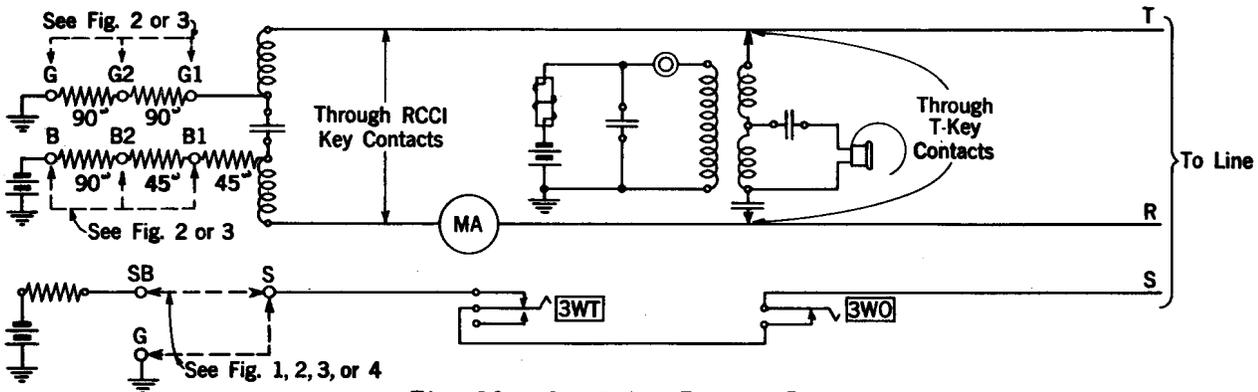

Fig. 13 - Supplying Talking Battery
5.31 When it is necessary to supply talking battery through the test circuit, operate the T and RCCI keys. This supplies central office battery through the repeating coil and milliammeter to the ring side and ground through the repeating coil to the tip side of the line. Observe the meter for supervision on the line. See Fig. 13.